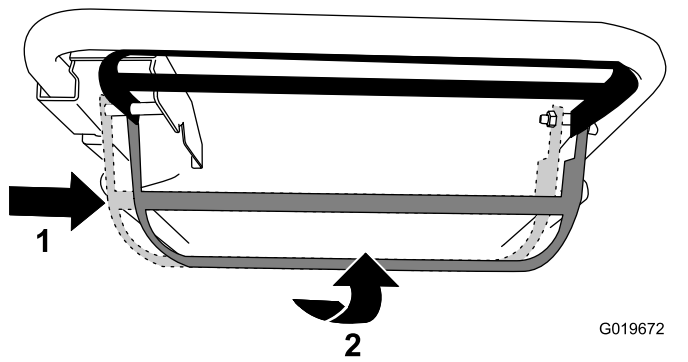

Figure 18
- To operate the self-propel drive and engage the blade:** Move the blade-control bar all the way to the right and raise it to the handle (Figure 18).